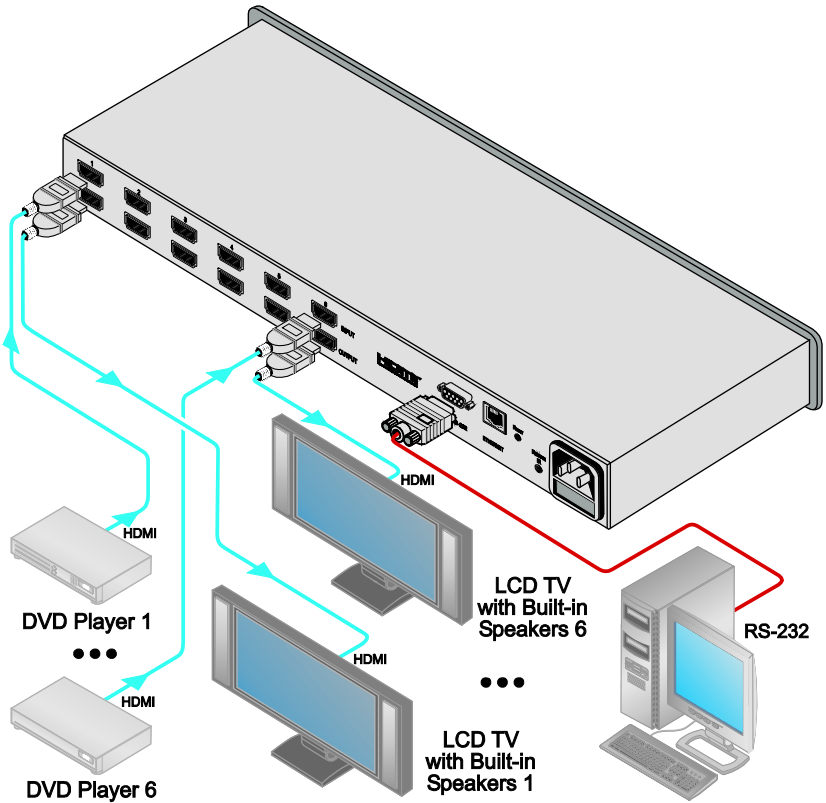

Figure 2: Connecting a VS-66H 6x6 HDMI Matrix Switcher
To connect the **VS-66H 6x6 HDMI Matrix Switcher**, as illustrated in the example in Figure 2, do the following¹:
4. Connect the power connector to the mains electricity (not shown in Figure 2).